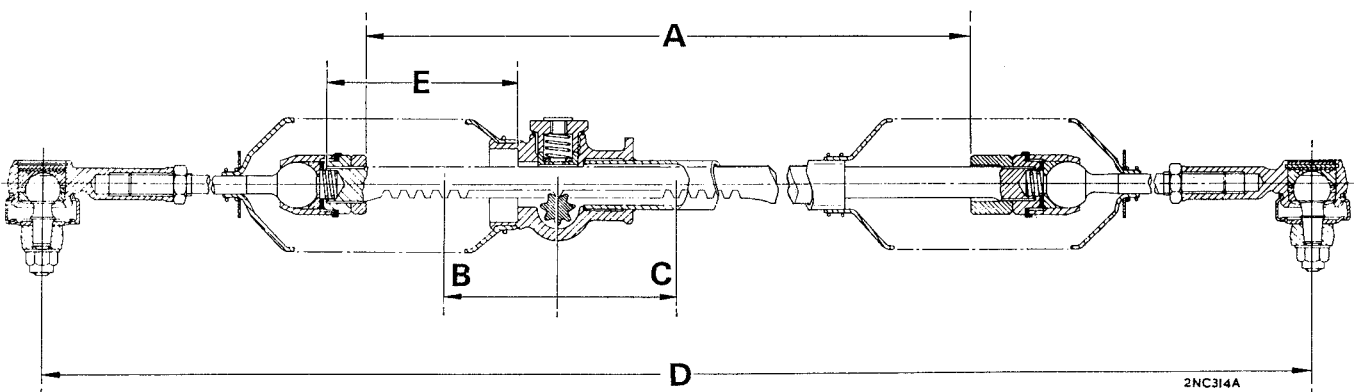

Fig. J.6
- (33) Immerse the pinion bushes and the plunger in S.A.E. 20 engine oil, and heat the oil to 100° C. (212° F.) for two hours, then allow the oil to cool before removing the bushes and plunger from the oil and fitting to the rack; this allows the pores of the bushes and plunger to be filled with lubricant.
- (34) Fit the bottom bush into the pinion housing as follows:
- (35) Fit the thrust washer, chamfered bore uppermost, into the pinion housing.
- (36) Insert the rack into the housing from the pinion end, noting the following:
- (b) Insert the rack into the housing with 3½ in. (88·90 mm.) of the teeth end protruding from the 'travel' abutment face of the pinion housing (see dimension 'E' of Fig. J.6).